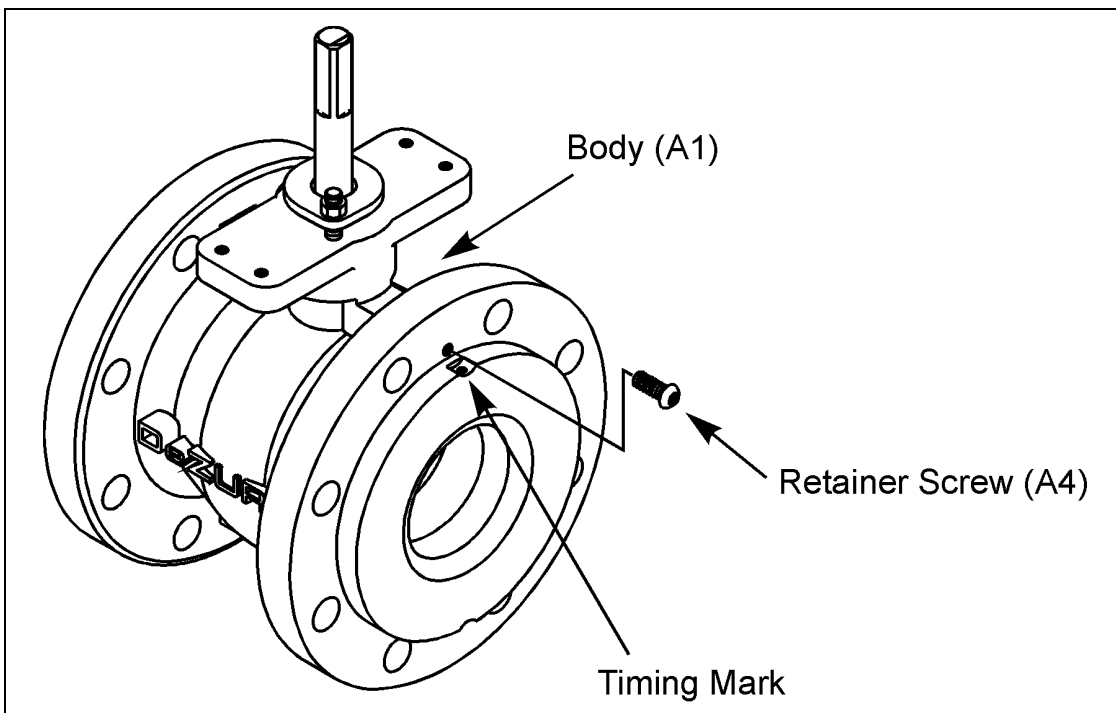

Figure 4 – Timing Mark Toward Valve Neck
11. Place the seat retainer (A3) in the valve body with the timing mark, which is located on one of the retainer screw cutouts, toward the valve neck as shown in Figure 4.